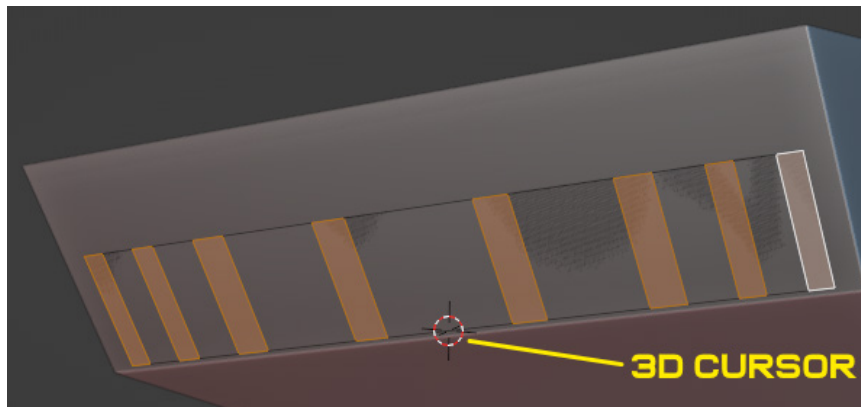

Figure 8.6 – Adding the edges
3. Repeat *Step 2* to create more edges. The edges should create thin faces, arranged as shown in *Figure 8.6*. Place the 3D Cursor at the lower-middle edge.
4. Select the edges at the top of the faces, marked previously in *Figure 8.6*. Extrude the edges with *E*, and snap them back to their original place with the right mouse button.